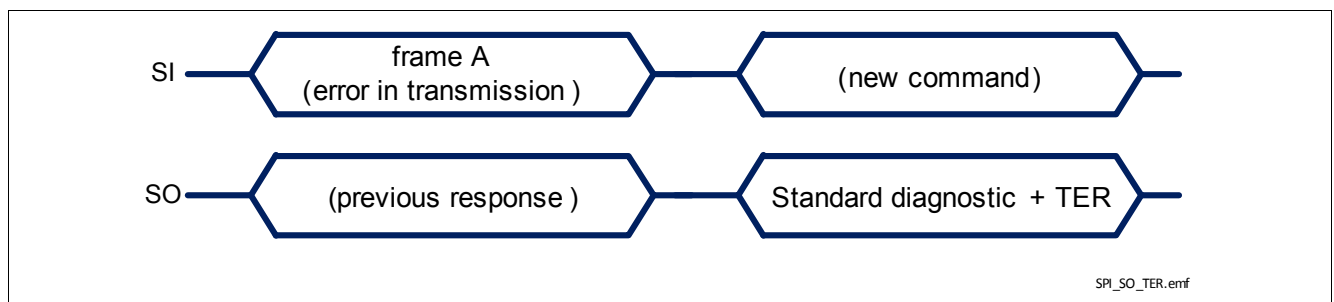

Figure 32 BTS54040-LBF response after an error in transmission
- in case an error in transmission happened during the previous frame (for instance, the clock pulses were not multiple of 8), shown in Figure 32